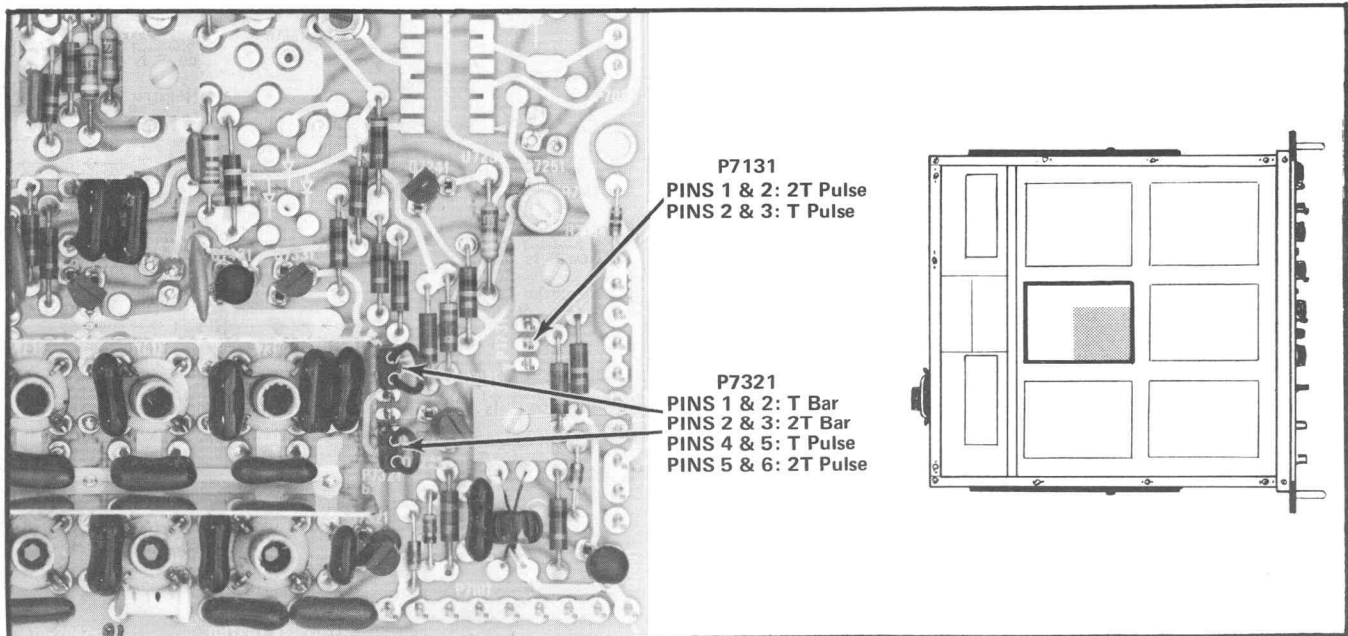

Fig. 2-9. Output circuit board showing locations of P7131 and P7321; 2T/T sine-squared Pulse and T/2T Bar (Integrated Sine-Squared Pulse).
As shipped from the factory, the 148 generates the 2T Pulse. To display the T Pulse in place of the 2T Pulse, (1) change the connector on pins 1 and 2 of P7131 to pins 2 and 3, and (2) change the connector on pins 5 and 6 of P7321 to pins 4 and 5. (P7131 and P7321 are located on Output circuit board, see Fig. 2-9.)